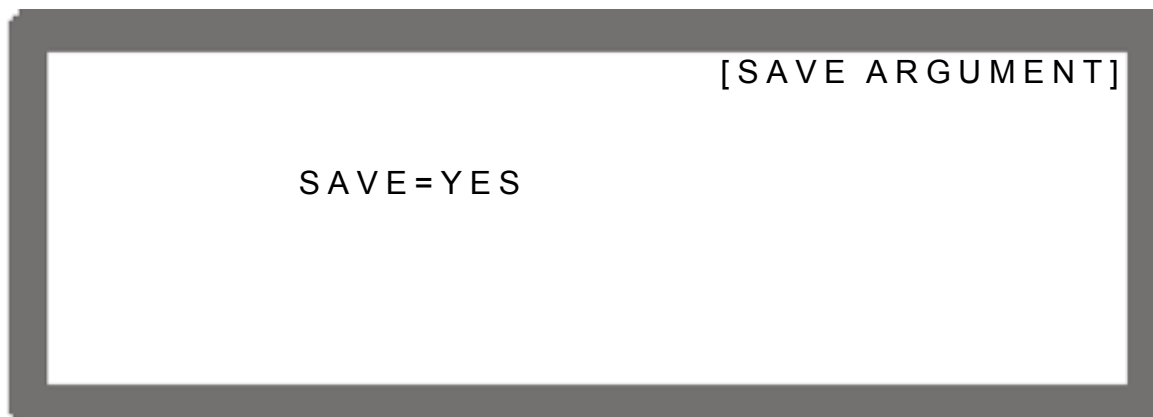

Figure 3-116
12. The current calibration is done once the above actions are completed. Turn off the DC Power Supply output and press " and " to save the calibrated data as Figure 3-116 shows, or press " to return to MAIN PAGE.
8. The APG Voltage calibration is done once the above actions are completed. Press "" and "" to save the calibrated data as Figure 3-116 shows, or press "" to return to MAIN PAGE.
8. The APG Voltage calibration is done once the above actions are completed. Press "SAVE" and "ENTER" to save the calibrated data as Figure 3-116 shows, or press "EXIT" to return to MAIN PAGE.